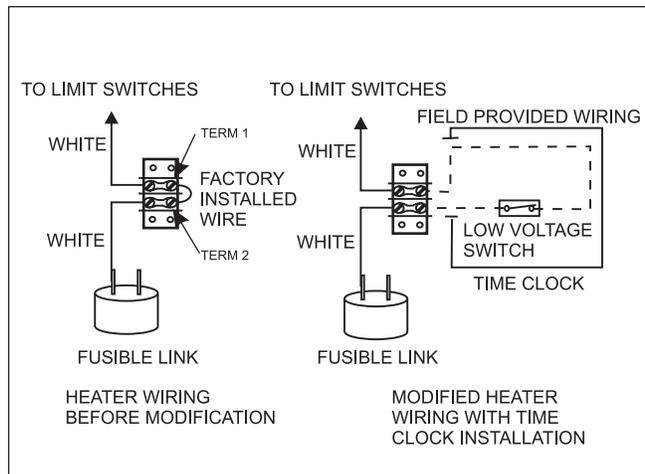

Figure 15. Time Clock Wiring.
To install a time clock auxiliary switch into the heater wires (see Figure 15):
2. Remove the factory installed wire between terminals 1 and 2 on the terminal strip (see Figure 15).